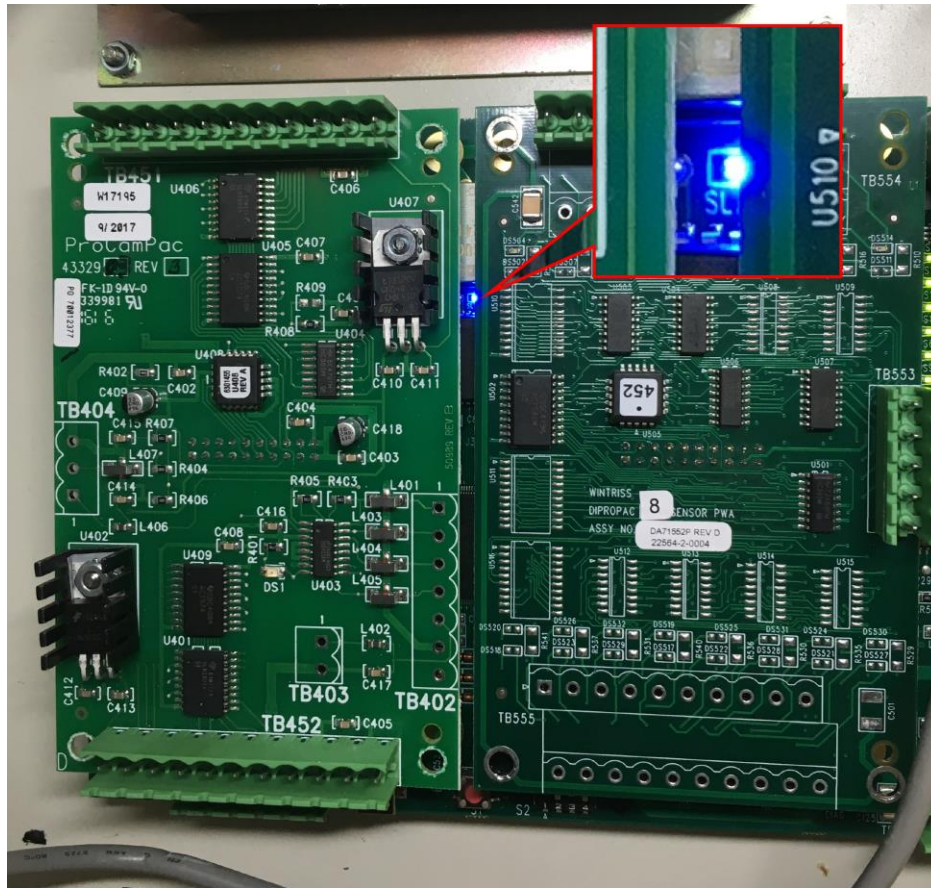

Figure 5 – Master/Slave jumper in Slave position
19. Verify the following: If your replacement RTS board is Rev F or higher you will notice a blue LED illuminated in the narrow space between the ProCamPAC and DiProPAC boards, provided your JP101 Master/ Slave jumper is in the Slave position or not illuminated if it's in the Master position (Figure 5 next page). If this is not the case, contact Tech Support.